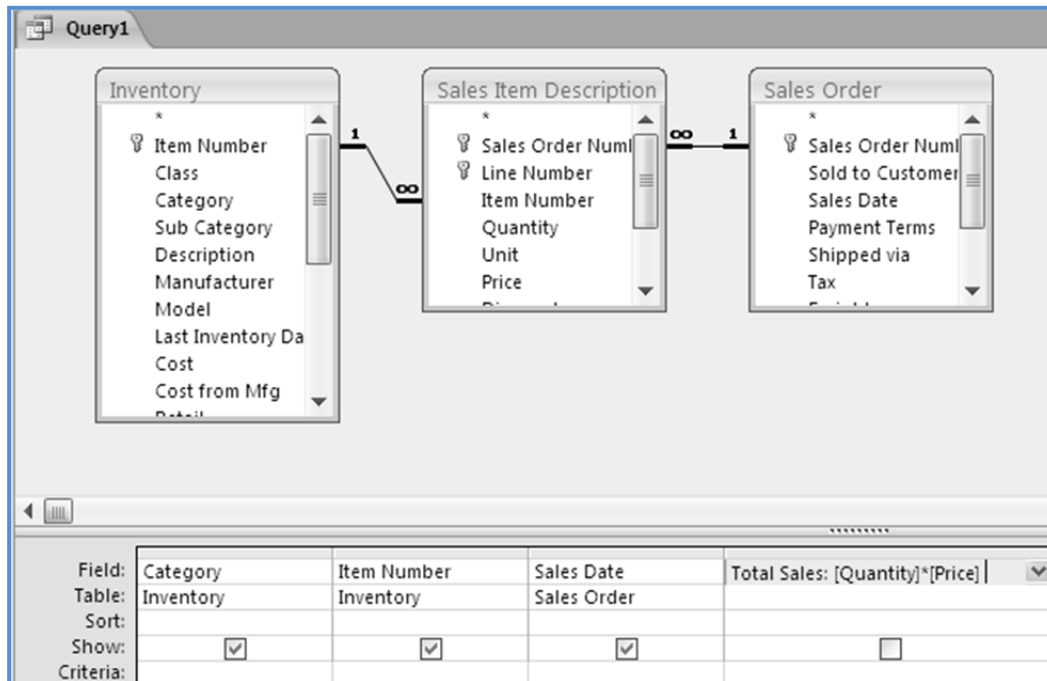

Fig. 1.2.54: Compute Total Sales
4. Now to compute the Total Sales of the Product, multiply *Quantity* * *Price* and create a new column. Write the expression *Total Sales: [Quantity]*[Price]* in the **Field** tab of the next column as displayed in Fig. 1.2.54.